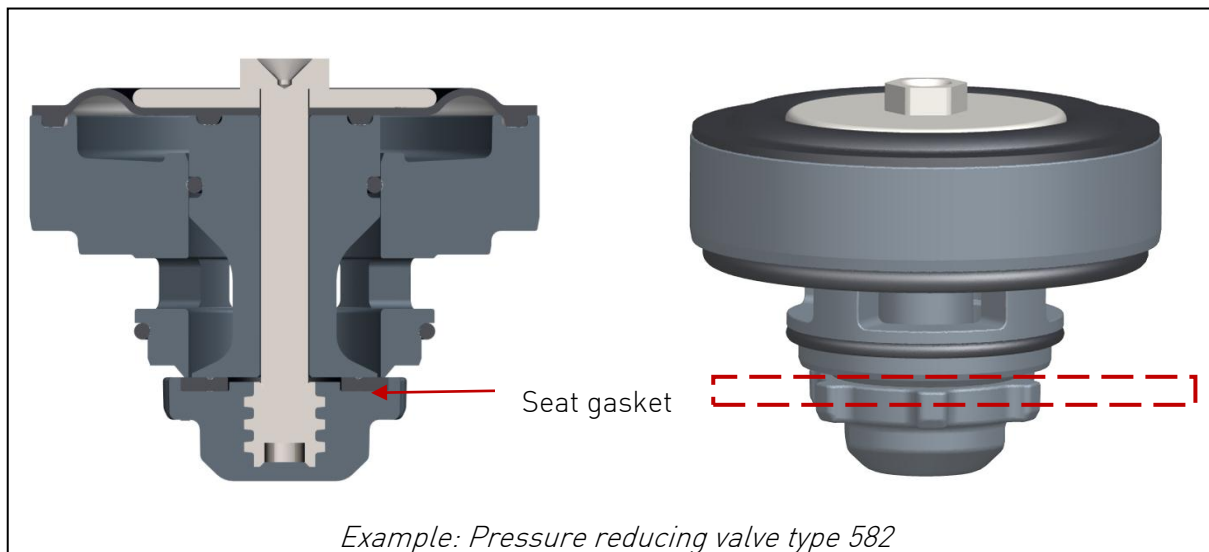

Fig. 16
- Check and clean the area of the seat gasket, see Fig. 16